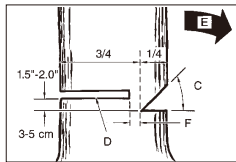

Fig. 11B
Make the felling cut (D) from the other side of the tree and 1.5 - 2.0 inches (3-5 cm) above the edge of the notch (C) (Fig.11B)